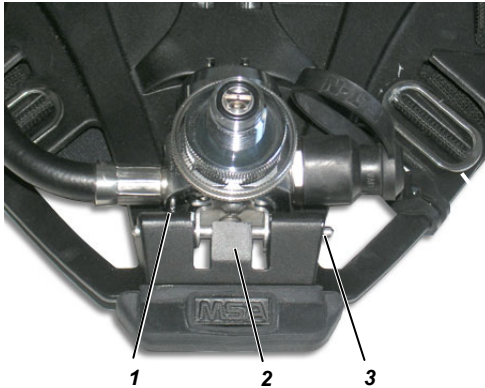

Fig. 23 Removing pressure reducer
- (8) Push the axis out of the retainer on the pressure reducer (→ Fig. 23).
- (9) Remove pressure reducer from the back plate, do not push up the catch spring.
- (10) Clean back plate with cylinder strap at max. 60 °C.
- (11) Clean harness in a suitable washing machine at max. 60 °C.
- (12) Clean lines, pressure reducer and pressure gauge preferable by hand.